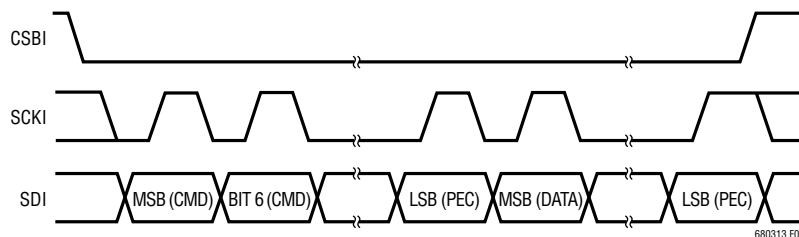
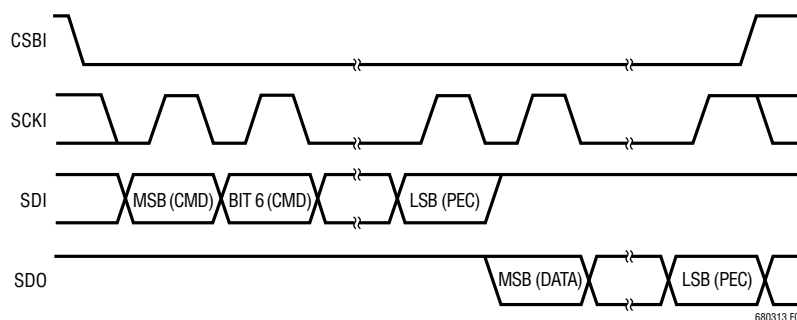

Figure 3. Transmission Format (Write)
Figure 4. Transmission Format (Read)
**Data Transfers:** Every byte consists of 8 bits. Bytes are transferred with the most significant bit (MSB) first. On a write, the data value on SDI is latched into the device on the rising edge of SCKI (Figure 3). Similarly, on a read, the data value output on SDO is valid during the rising edge of SCKI and transitions on the falling edge of SCKI (Figure 4).